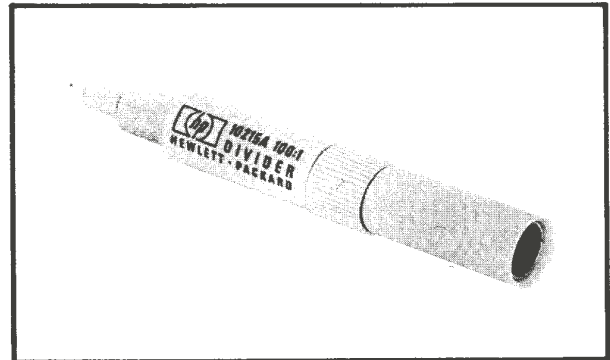

Figure 1. Model 10215A
2. The HP Model 10215A 100:1 Divider is a signal probing accessory (see Figure 1) which is designed for use with the Model 1123A Voltage Probe only. The divider increases the dynamic range of the Model 1123A to  $\pm 50$  volts. Specifications for the HP Model 10215A are listed in Table 1.